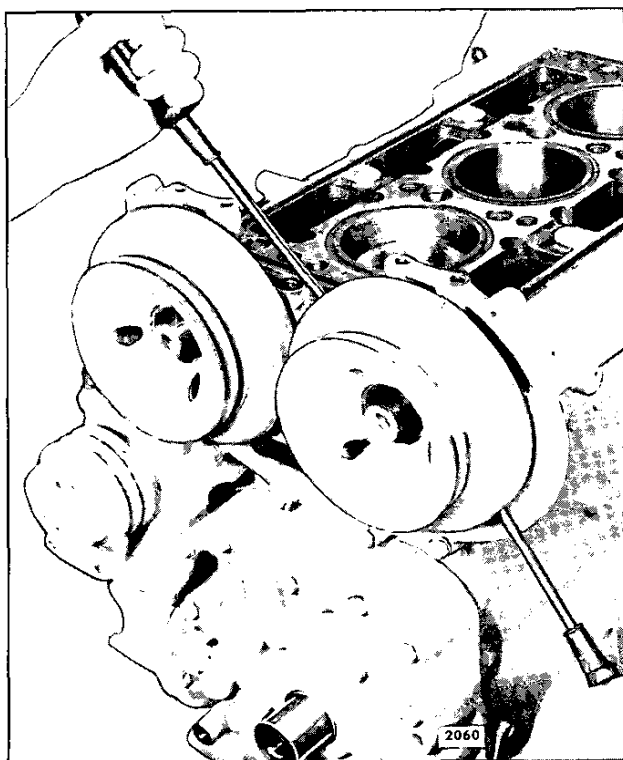

Fig. 1 - Removing Front Balance Weight (Pulley Type)
2. Force the balance weight off the end of each shaft, using two screw drivers or pry bars between the balance weight and the upper front cover (Fig. 1).